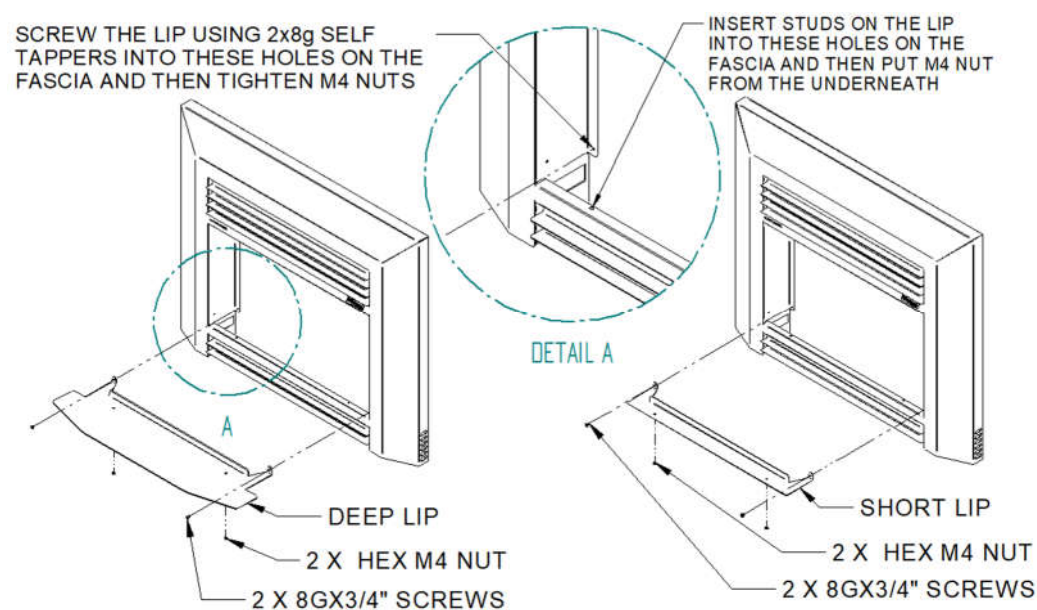

Fig. 6 – Fascia Ash Lip Options and Fitting Instructions
- Unpack the required lip and attach it to the main fascia using 2x M4 Nuts and 2x self-tapping holes. First, hook threaded studs on the lip into the holes on the fascia front. Use M4 nuts provided to engage loosely. Then screw the lip to the flange on the fascia side panel. Tighten the M4 nuts. Refer Fig. 6 for particular locations. Take care not to scratch any fascia panels.
- Secure fascia to the firebox with four screws to the cabinet. The screws are positioned on either side of the door opening. Refer Fig. 6 for the location of screw and speed/clip nuts on the firebox side flanges.